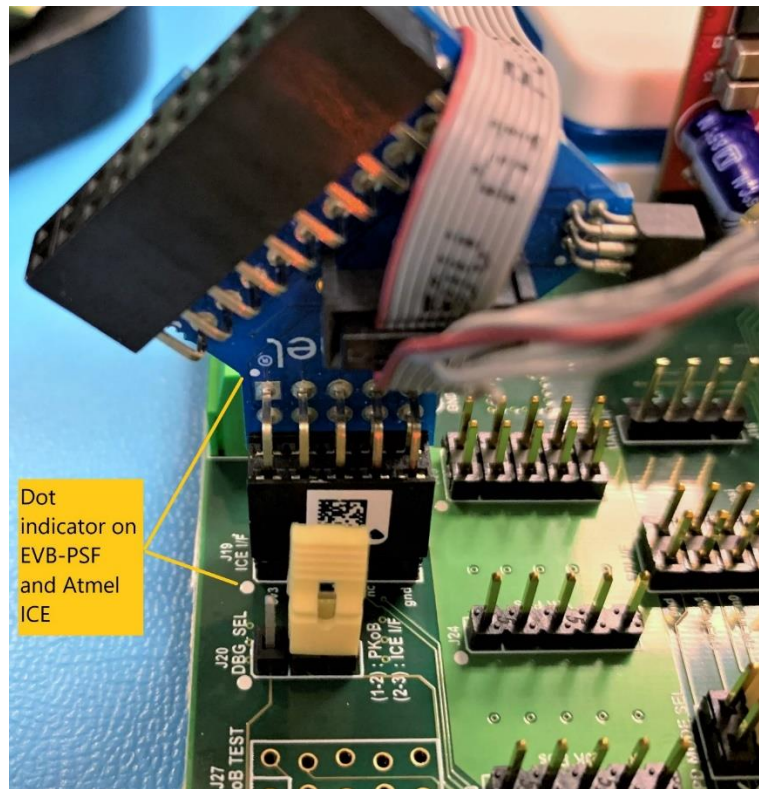

Figure 5.2 Connecting Atmel-ICE Debugger to J19
3. Connect one end of Atmel ICE to PC using USB Micro-B cable and the other end to J19 of EVB-PSF. A dot (encircled in image) will be present in Atmel ICE Adapter board which gives an indication that this pin should be connected to 3v3 of J19. Refer Fig 5.2,